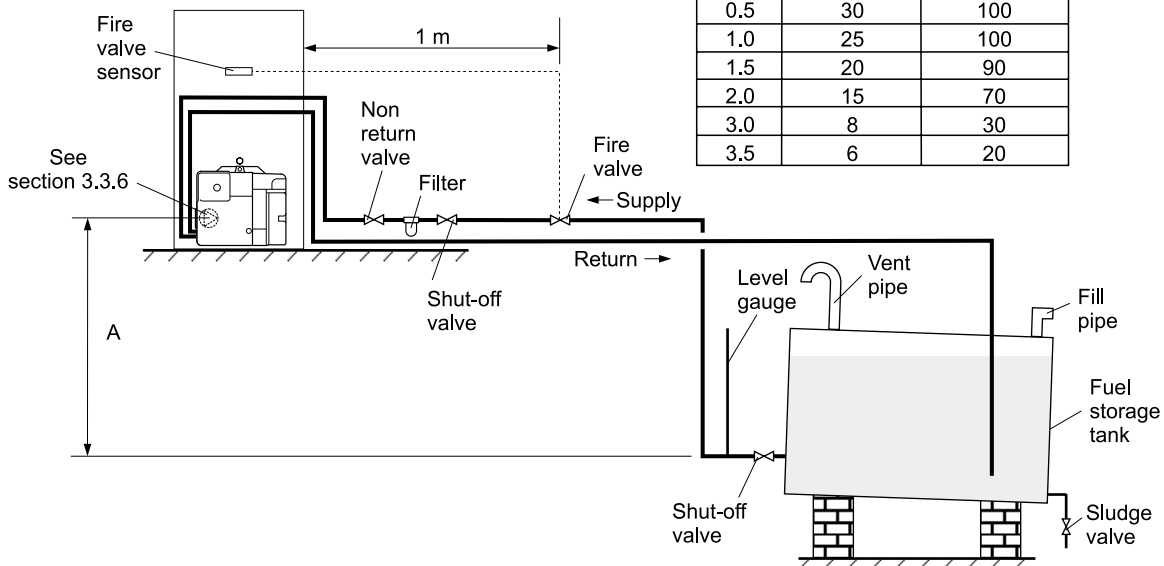

Fig. 3 - Two pipe system
3.3.4 Two pipe system - (See Fig. 3)
1 When the storage tank outlet is below the burner, the two pipe system should be used. The pipe runs should be as shown in Fig. 3. The return pipe should be at the same level in the tank as the supply pipe, both being 75 to 100 mm above the base of the tank. The pipe ends should be a sufficient distance apart so as to prevent any sediment disturbed by the return entering the supply pipe.